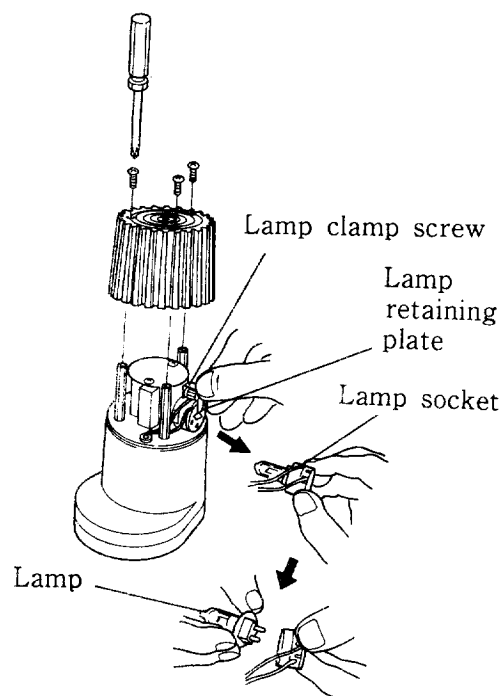

Fig.4-2 Lamp replacement
- (4) Set the lamp retaining plate as Fig.4-2 and fix the retaining screw as before.